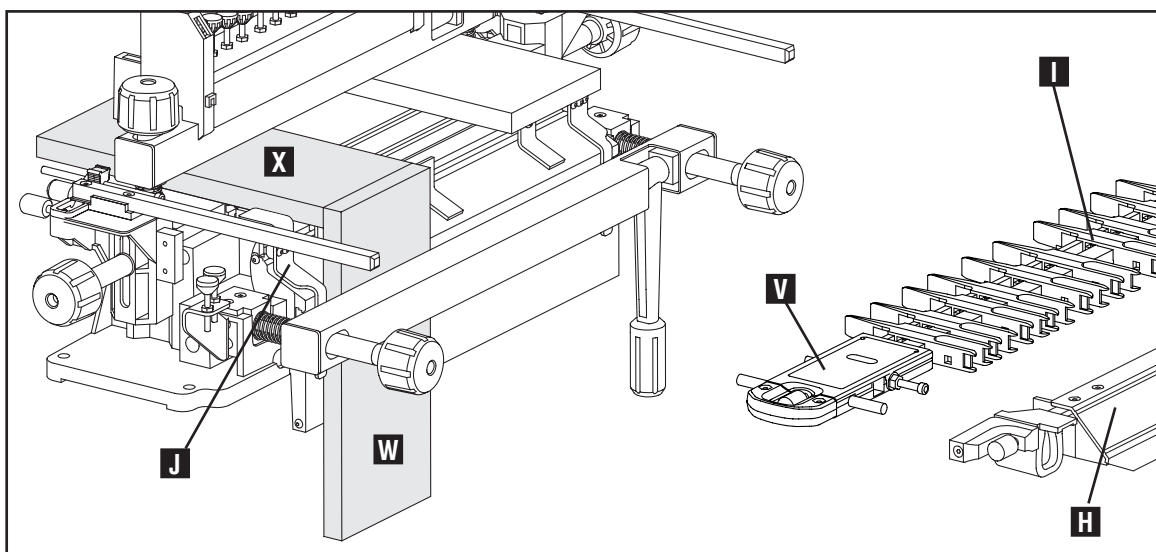
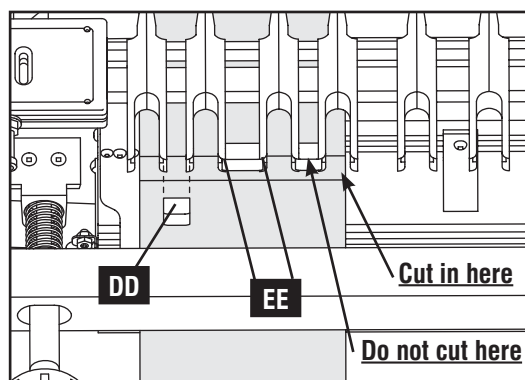

Fig. E11
Fig. E12
1. Remove stabilizer bar (H) Fig. E11 and remove template (I).
2. Put horizontal scrap (X) into the jig.
3. Put the template back onto the jig so the yellow "B Tails" label (V) is located at the upper left side.
4. Slide vertical tailboard (drawer side) (W) in up against the lowered template (I) (shown out of the way for clarity). Be sure the tailboard is oriented with the "outside surface" facing the base. Slide a piece of horizontal scrap (X) into place behind the vertical piece to help reduce tearout.
5. Be sure vertical board (W) is lined up flush against the left edge guide (J).
**NOTE:** If desired, before making the cut, create 1/2" x 1/2" wood spacers (DD) Fig. E12 and insert them between adjacent fingers. (Place them between the square corners (EE), where you are not cutting.) This will keep the router from cutting into the tails and removing excess material.
8. Climb cut from right to left slowly along face of the board, then clean out the proper areas moving slowly from left to right. Be sure to cut only between the rounded edges, not between the square ones. (Fig. E12)